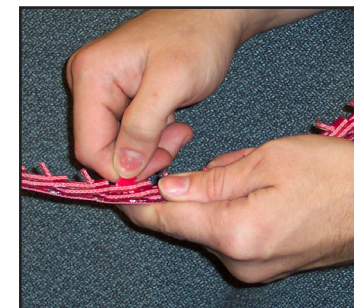
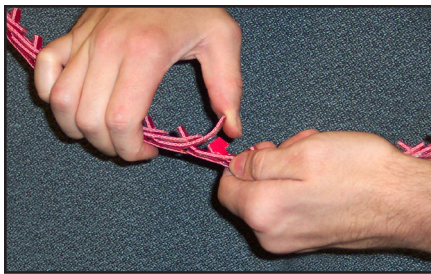
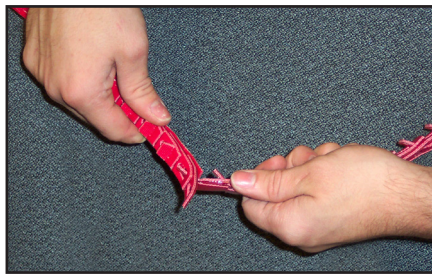

Fig. 2
Fig. 3
Fig. 4
- 4 Determine hand tight length by pulling belt tight around all pulleys and overlapping the last two tabs with two holes in matching links. Remove approximately 1–2% of belt from the “hand tight length” to assure proper installation tension. To disassemble, hold belt upside down. Twist one tab 90° so that it is parallel with the slot (Fig. 2). Pull end of link over tab (Fig. 3). Rotate belt end with tab 90°. Pull belt end through two links (Fig. 4).